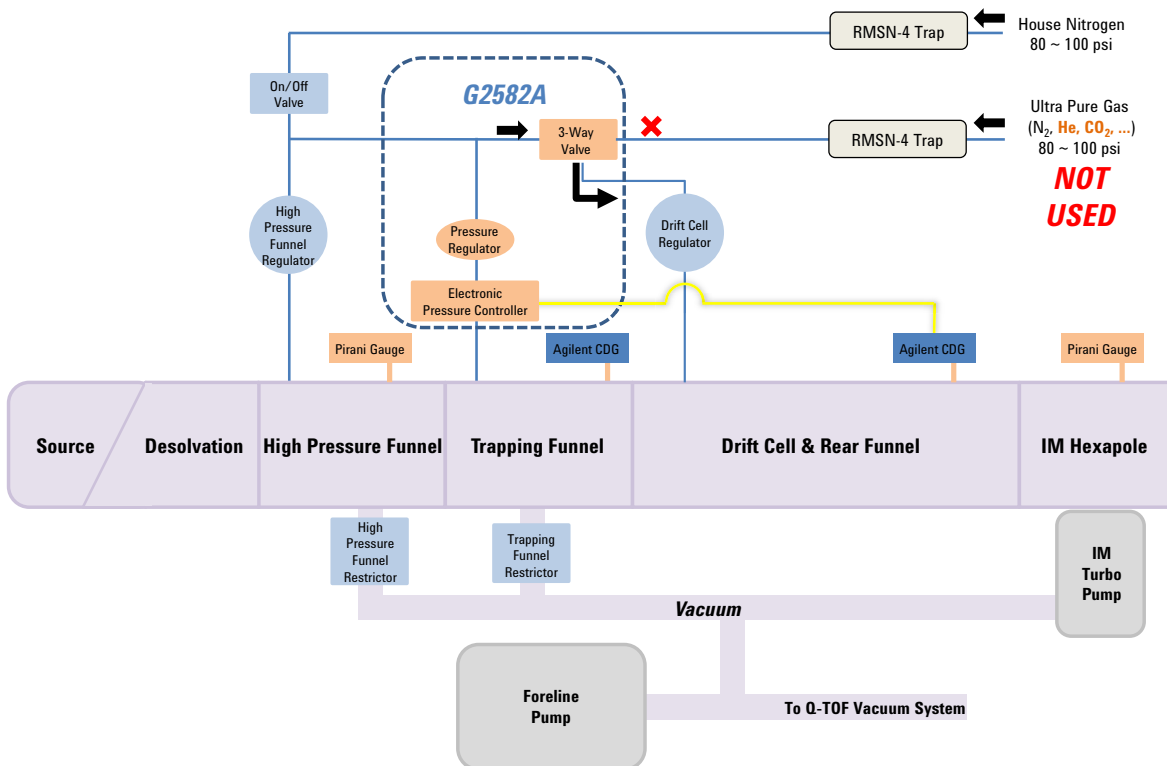

Figure 4 Gas plumbing for the IM section of the IM-QTOF instrument for use with House Nitrogen drift gas
- 1 Turn the 3-way valve to the **House Nitrogen** position. See Figure 4.